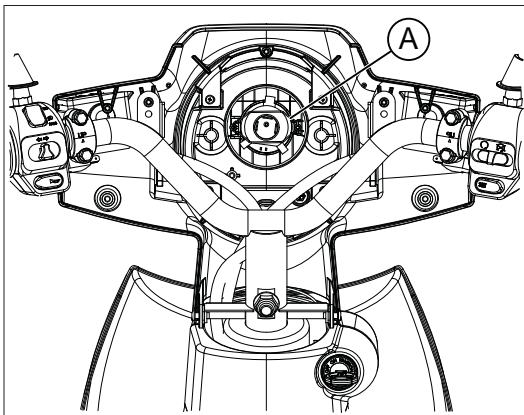

fig. 5
- press the retaining clips A fig. 5;
- replace the complete bulb holder in its seat and fasten with the retaining spring A fig. 5;